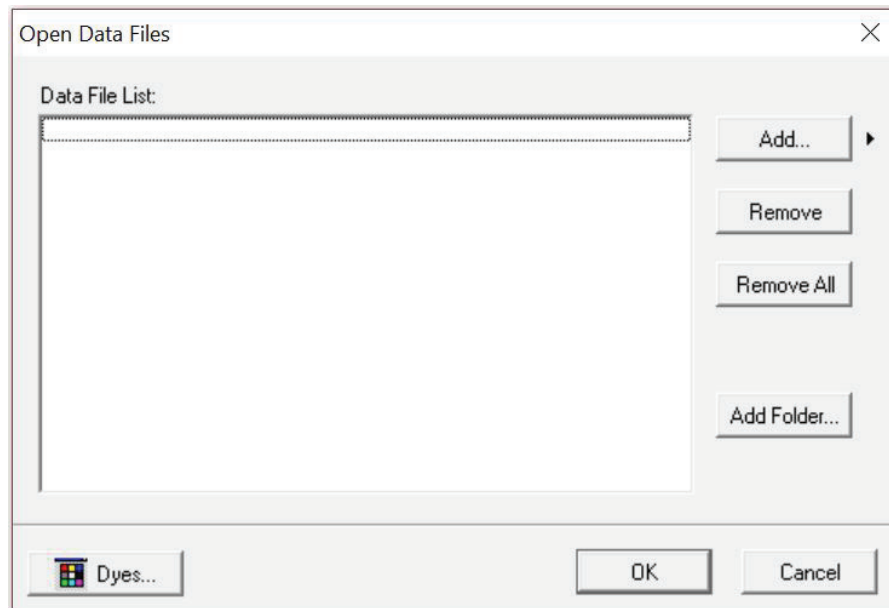

Figure 30. The GMHID-Spectrum Data File List.
4. Select **Open**, and the selected files will appear in the Data File List (Figure 30).